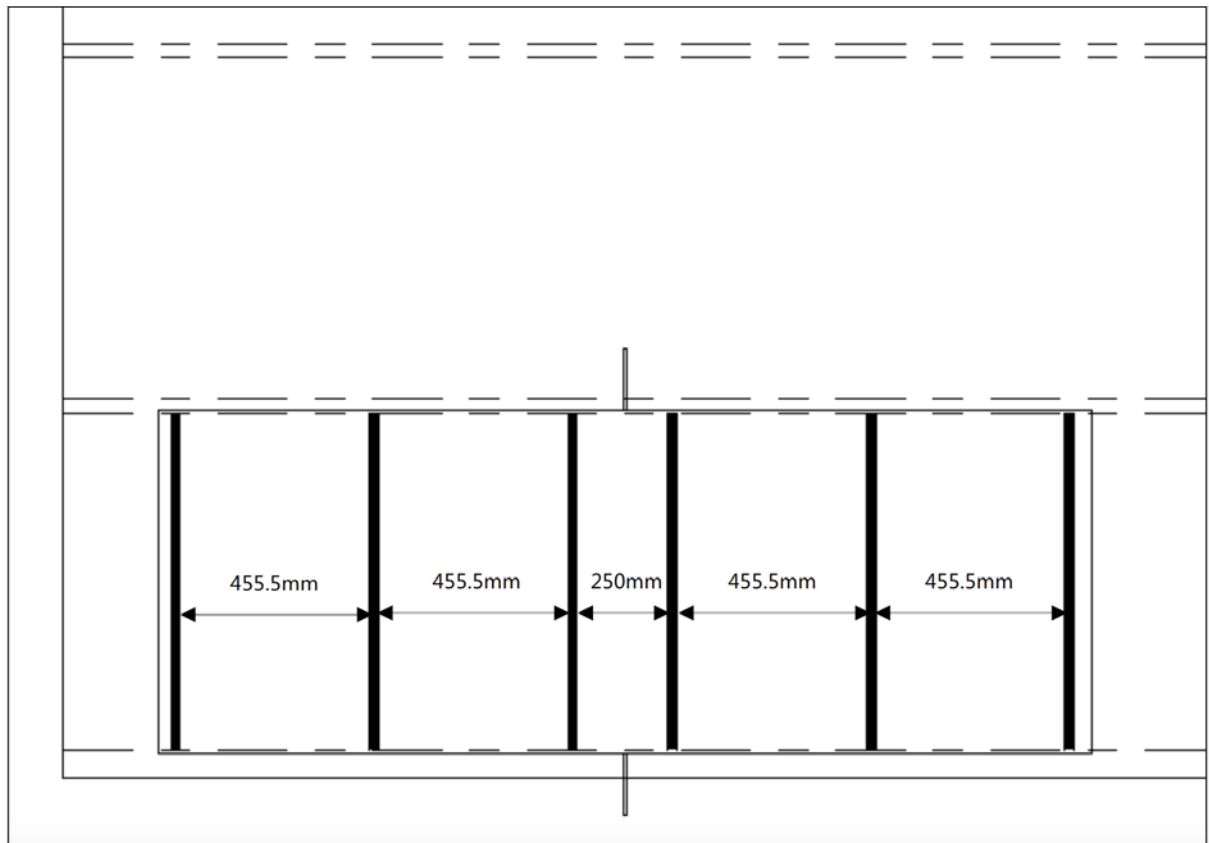

Figure 9
- ① Galaxy products are supported on the flat roof by support tubes, using structural adhesive which needs to meet the requirements for adhesive strength and pass reliability test. The support tubes are glued on both sides, respectively bonded to the base of the flat roof and the back of the product. The spacing is as follows (Figure 9). The distance between two strips of structural adhesive should not be greater than 500mm.